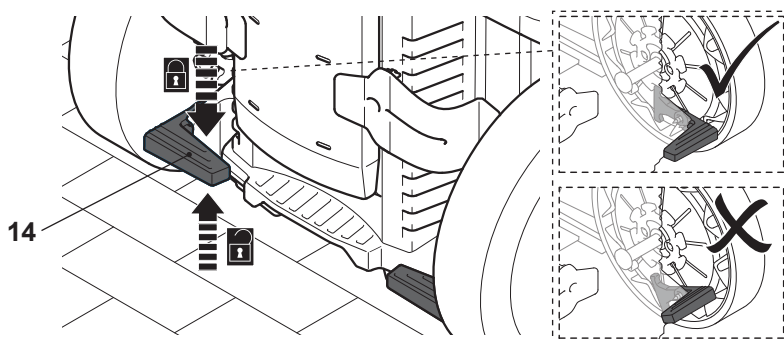

Fig. 21
1. Step down the brake pedal (14) to lock the rear wheel. Slightly move the wheel to ensure the brake lever is engaged properly. (Fig. 21).